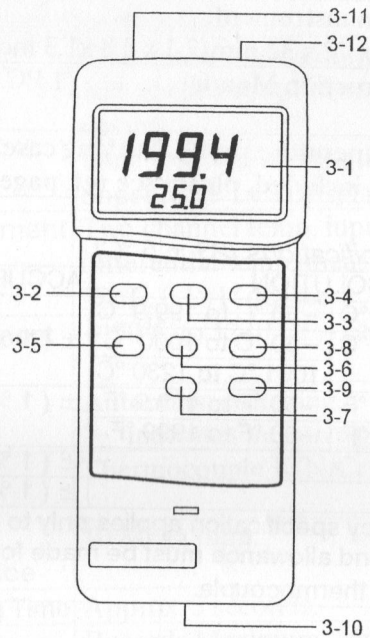

Fig. 1
- (1) Push the "Power ON Button"(3-2, Fig. 1) to let the instrument power "ON".
- (2) Determine temperature unit to °C or °F by push the "°C/°F push button"(3-4, Fig. 1) Then the display will show the temperature unit of "°C" or "°F".
- (3) Determine the display resolution to 0.1° or 1° by push 1°/0.1° Button(3-9, Fig. 1)
- (4) One probe measurement:
Insert one temp. probe plug into the socket T1(3-11), then push the "Function Button"(3-8, Fig. 1) until the display show the marker "T1" Display will show the temperature reading that measured from the probe.
- (5) Two probe(dual channel) & differential measurement:
- a. Insert first temp. probe plug into the "T1 Socket" (3-11, Fig. 1).
- b. Insert second temp. probe plug into the "T2 Socket" (3-12, Fig. 1).
- c. The main display(upper display) will show the temperature reading of first probe(T1) & the lower display will show the temperature reading of second probe(T2), if push the "Function Button"(3-8, Fig. 1) until the display show the marker "T1".
- d. The main display(upper display) will show the temperature reading of second probe(T2) & the lower display will show the temperature reading of first probe(T1), if push the "Function Button"(3-8, Fig. 1) until the display show the marker "T2".
e. The main display(upper display) will show the differential temperature reading of the first & second probe(T1 – T2) & the lower display will show the temperature reading of first probe(T1), if push the "Function Button"(3–8, Fig. 1) until the display show the marker "T1 – T2".
- (1) During the measurement, push the "Data Hold Button"(3–3, Fig. 1) will hold the display values & LCD will show the "D.H" marker.
- (2) Push the "Data Hold Button" again will release the data hold function.
- (1) The DATA RECORD function displays the maximum, and minimum readings. To start the DATA RECORD function, press the "Record Button"(3–6, Fig. 1) once. "REC" marker will appear on the LCD display.
- (2) When the "REC" marker on the display.
- (a) Push the "CALL Button"(3–7, Fig. 1) once, then the "Max" marker along the maximum values will appear on the LCD display.
- (1) When the left corner of LCD display show "LBT", it indicate a normal battery output of less than 6.5 V – 7.5 V. It is necessary to replace the battery. However, in-spec measurement may still be made for several hours after low battery indicator appears before the instrument become inaccurate.
- (2) Slide the Battery Cover(3–10, Fig. 1) away from the instrument and remove the battery.
- (3) Replace with 9V battery (heavy duty type) and reinstate the cover.
- (4) Make sure the battery cover is secured after change the battery.